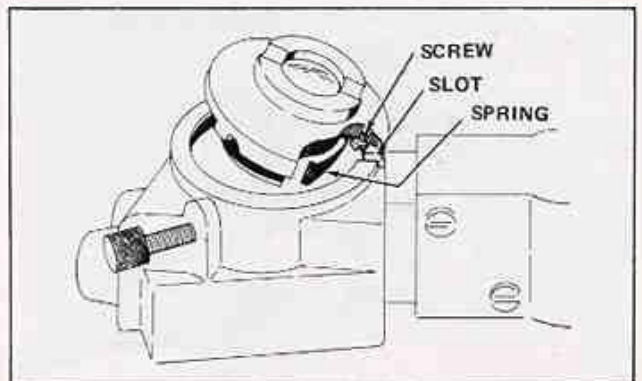

Figure 30. Removing Top Portion of 1031 or 1036A
5. When re-assembling, be sure that index screw aligns with slot (Fig. 30) so that top portion will seat properly on illuminator base.